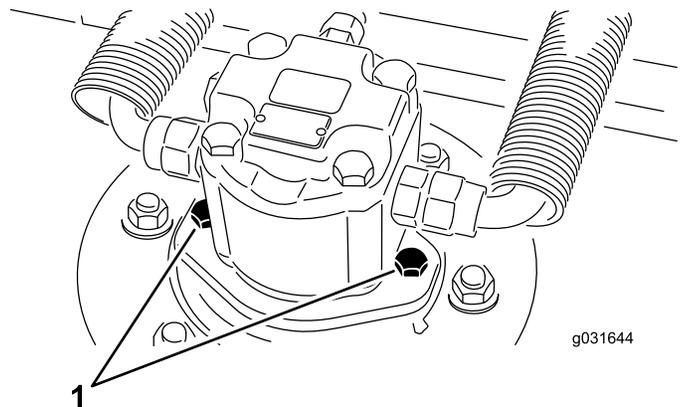

Figure 65
2. Remove the hydraulic-motor-mounting screws and disconnect and remove the hydraulic motor from the deck (Figure 65).
- Using the hydraulic-motor-mounting screws, install the hydraulic motor to the deck (Figure 65).